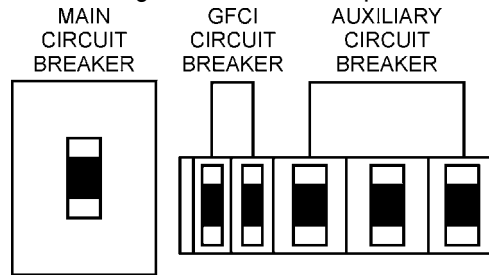

Figure 57. Main, GFCI and Load Circuit Breakers Off
1. Place both the **MAIN, GFCI and LOAD** circuit breakers as shown in Figure 57 to the **OFF** position..